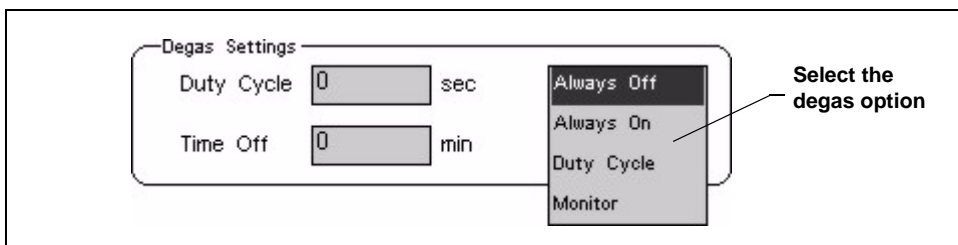

Figure C-15. Pump Page: Selecting Degas Options
2. Under **Degas Settings**, touch the options drop-down list. A list of available options appears (see Figure C-15).